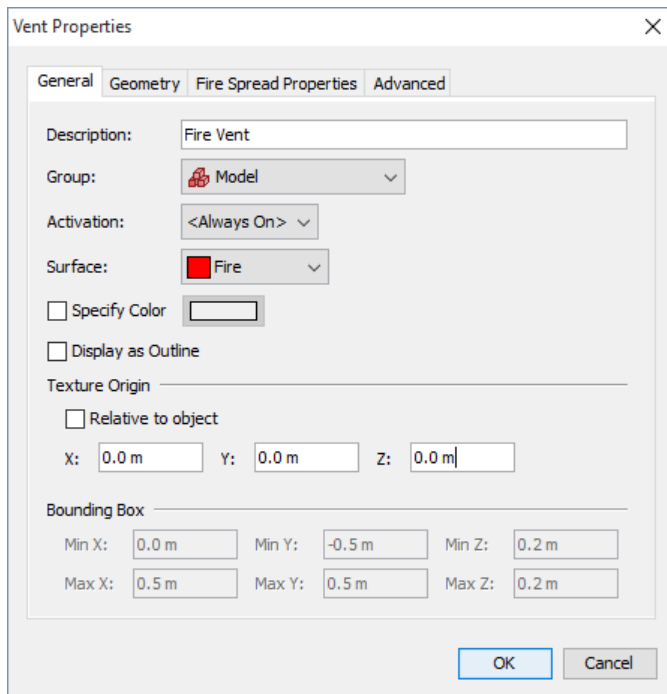

Figure 5. Creating the burner vent
2. In the **ID** box, type **Fire Vent**, Figure 5.